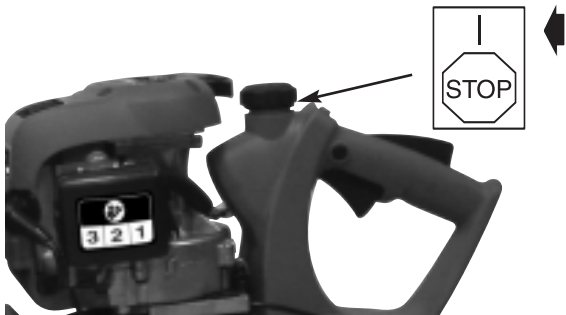

Fig. 1
1. Move on/off ignition switch to the "RUN (I)" position. (Figure 1)